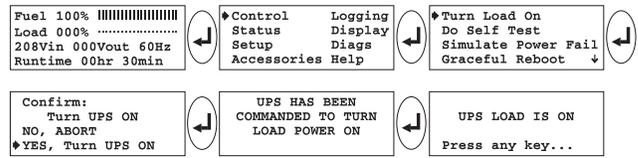

Fig 5-22 Power The Load Sequence
- 8. Follow these steps to deliver output voltage to the load equipment. See figure 5-22 for the screen sequence: *Note: It is recommended that load equipment be switched “off” while this step is performed. After output voltage is delivered, switch the load equipment “on.”*